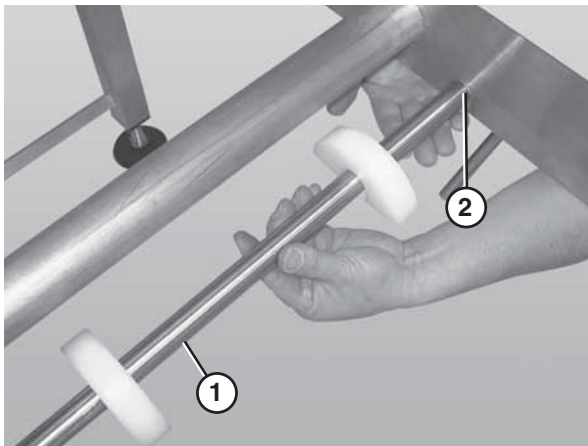

Figure 51
2. Slide the return shaft up (**Figure 51, item 1**) and through the large slot (**Figure 51, item 2**) in the frame (picture shown without the belt or wear strips).
3. Push up on the return shaft (**Figure 51, item 1**) and slide the notched end of the shaft through the small slot on the opposite side of the frame.